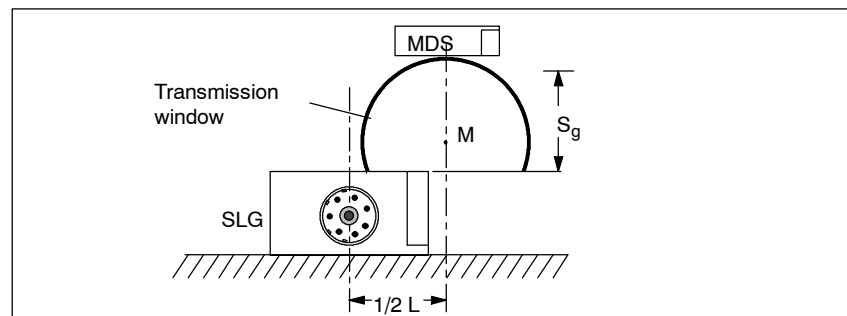

Figure 3-2 Working in static operation
The greatest operating distance (S_g) is achieved vertically over the midpoint (M) of the transmission window. Figure 3-2 illustrates this distance at which transmission is still possible.